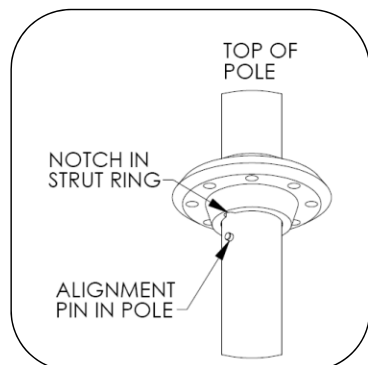

Fig. 1 – Install strut ring
2. Install strut ring on pole. See Fig. 1.